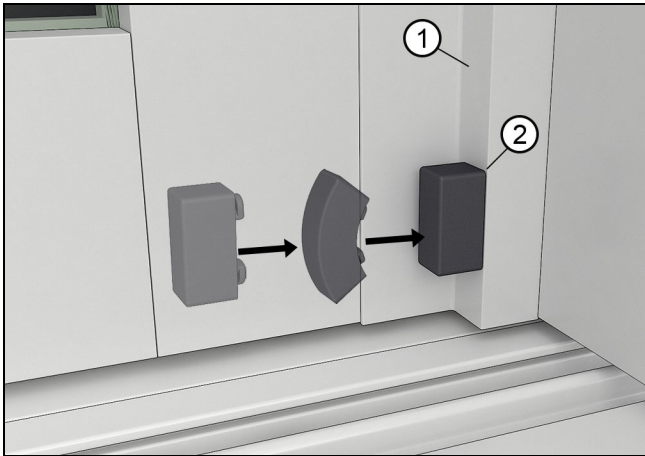

Figure 103
6. Insert a pocket cover bumper at the top and bottom of the pocket cover trim piece. Squeeze the rubber bumper and insert in to the pre-drilled holes. See Figure 103.